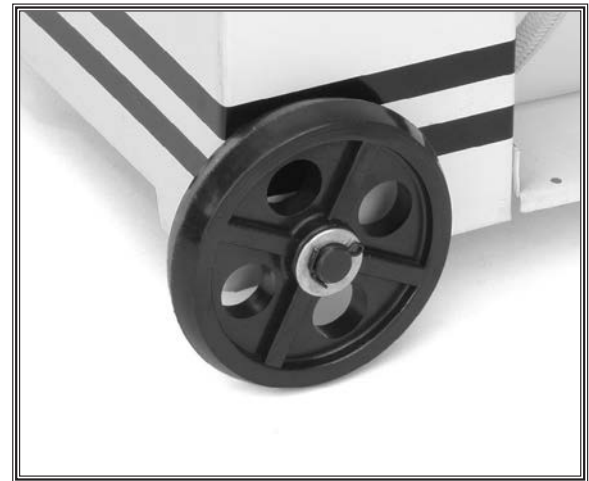

Figure 11. Installed wheel.
4. Slide the two 5/8" flat washers onto the axles, and install the two cotter pins (see **Figure 11**).